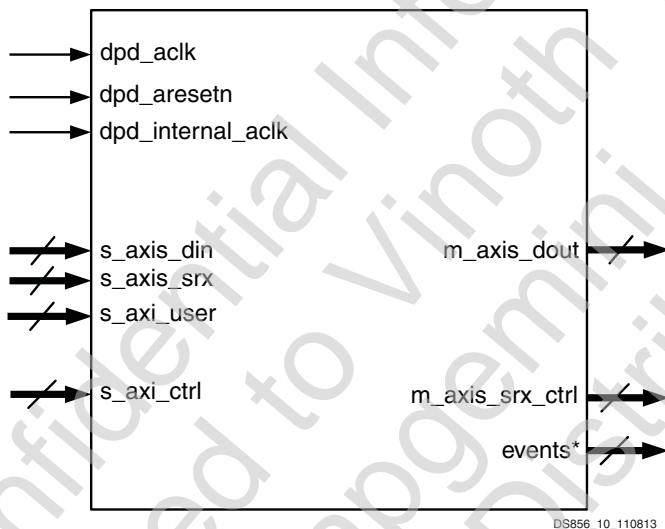

Figure 2-1: DPD IP Symbol (Input/Output Ports)
Figure 2-1 displays the signal names of the DPD HW component. Table 2-6 defines these signals. The AXI4-Stream interfaces are parameterized by the number of transmit antennas (TX) and the number of phases (NUM_PHASES). For two phases, two samples per antenna path are input and output from the core on each clock cycle. For one phase, one sample per antenna path is input and output from the core on each clock cycle.